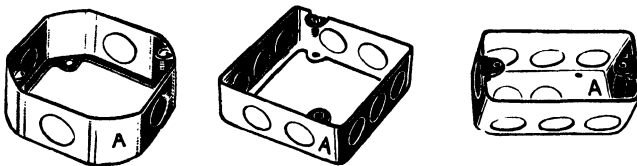

Fig. 29. Extension Rings for Outlet Boxes
**Exposed Extensions** to existing concealed wiring require the removal of the fixture or other device in place on the outlet from which the extension is to be made, in order to provide access to the wires and to permit the mounting of an extension ring on this box, Fig. 29, which must be of the same size and shape as the outlet box upon which it is to be mounted. The extension ring is secured to the box by means of machine screws entering tapped holes in the box.